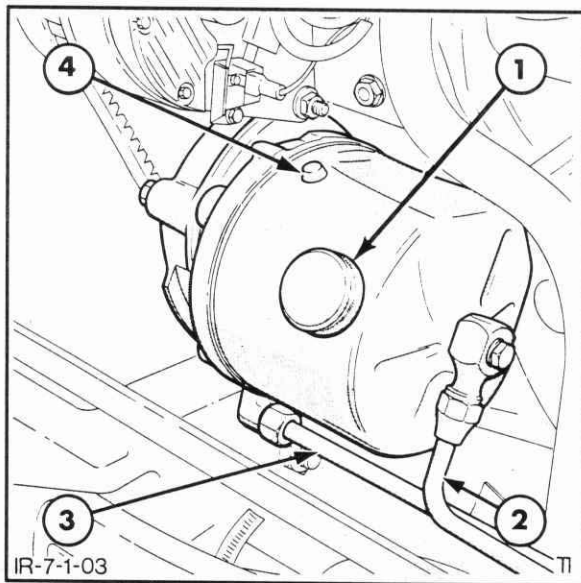

Figure 7-11
2. Disconnect the pump pressure and return tube and allow the oil to drain. Refer to Figure 7-11.